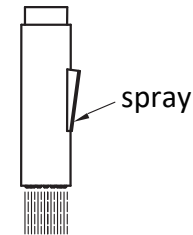

Figure 1
Turn the tap on and press the top of the spray (2) head button to change to Spray. (As figure 1)